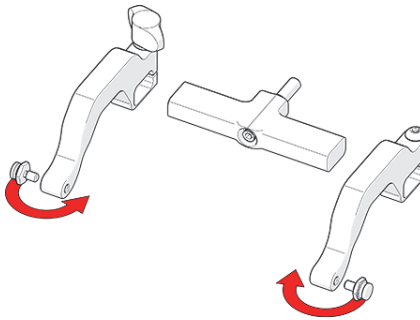

Figure 3-31 Position pivot buttons
5. Position the pivot buttons to the inside of the probe holder arms (see Figure 3-31 on page 57).